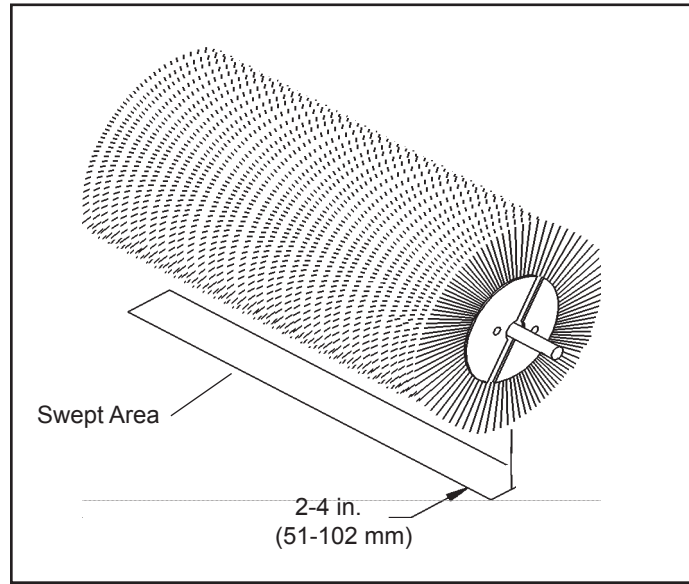

Figure 7
5. Raise the sweeper and back away; switch off the engine and remove the key. The brush pattern left in the dust should be 2-4 inches (51-102 mm) wide, running the length of the brush. (Compare the swept area with figure 7.)